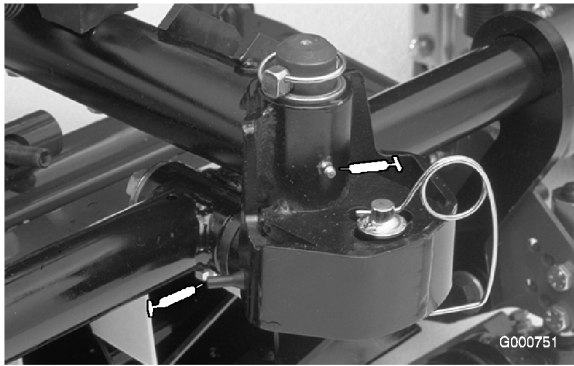

Figure 29
- Cutting unit carrier frame and pivot (2 ea.) (Figure 29)